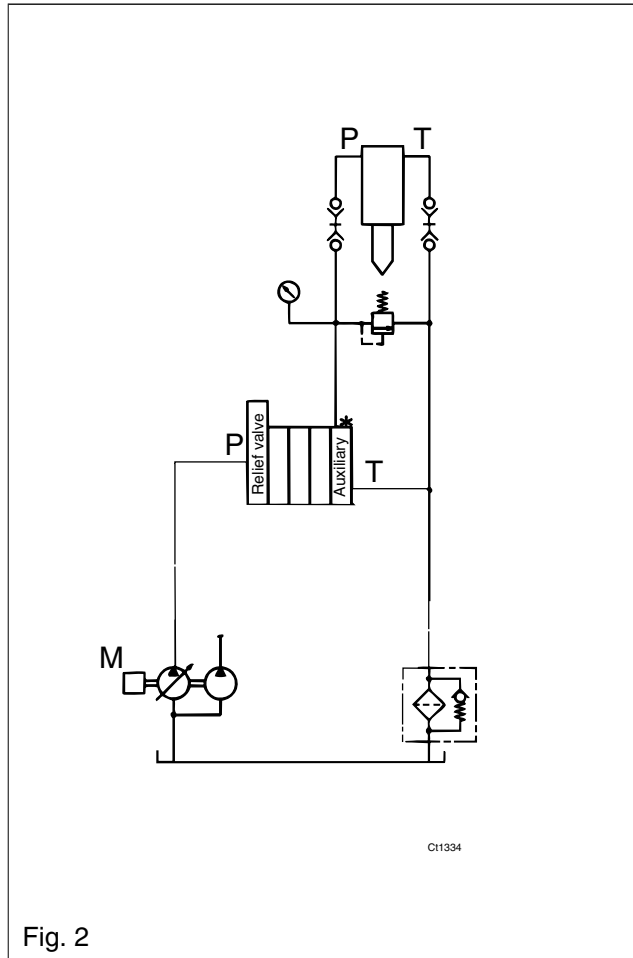

Fig. 2
- To ensure that the accumulator and hammer are not overloaded, a separate pressure relief valve should be installed, see fig. 2. It is set at a value of 30 bar over the hammer's maximum working pressure. If the carrier's hammer circuit is already equipped with a pressure limiting valve, no extra valve is necessary.